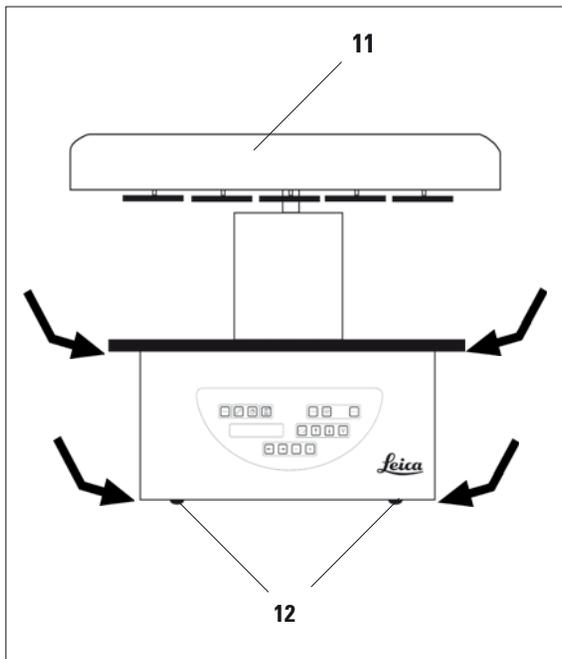

Fig. 11
- To lift up the instrument take it by the reagent container platform or by the lower end of the housing (Fig. 11) and lift it from the base plate (8).